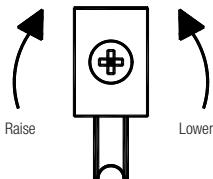

FIG. 20
- B) Slide the lock side of the active panel within 1/16" from the side jamb interior stop. The gap between the edge of the panel and inside stop must be consistent along the vertical length of the panel. If this is not the case with your unit, you must make adjustments to the rollers. The rollers can be adjusted with a screwdriver on the screws located at the base, on the edges of the panel. Turning the screw in one direction will raise or lower that side of the panel. (Fig. 20) Taking the weight off the rollers will allow for easier adjustment.